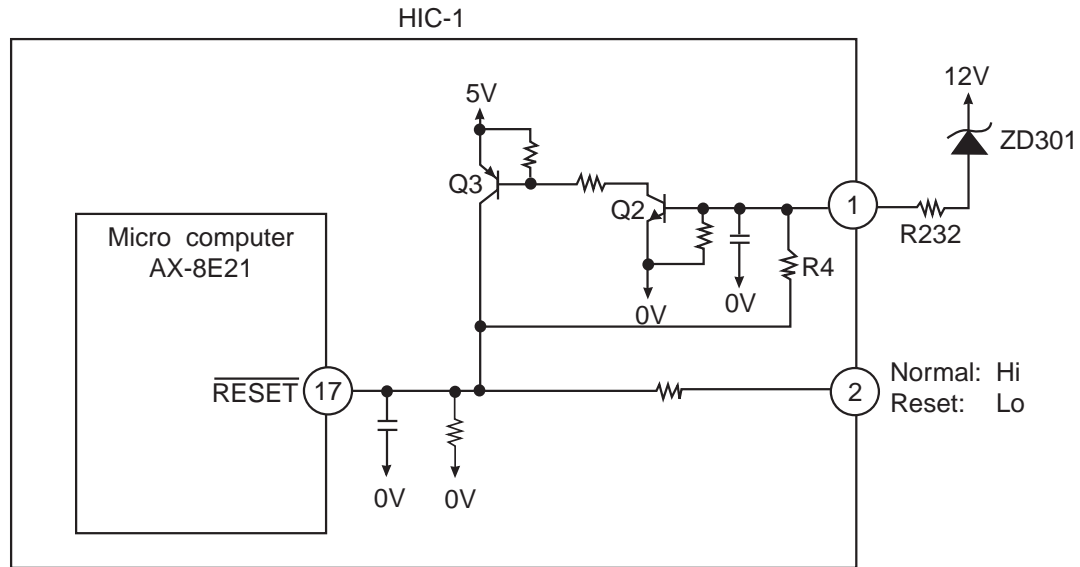
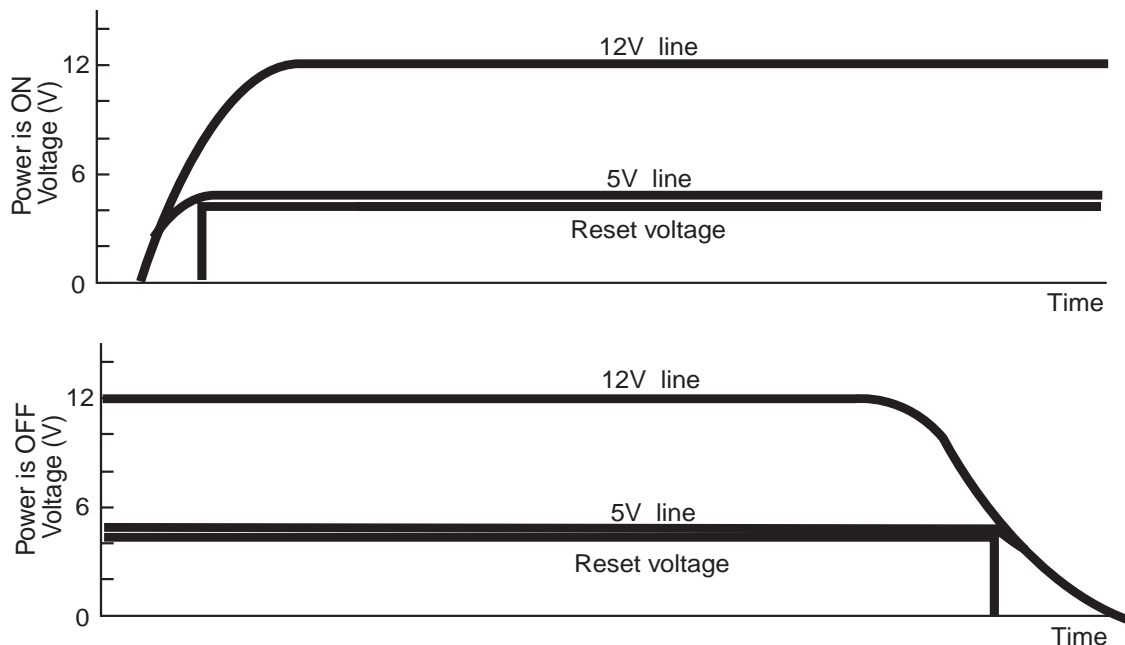

Fig. 11-1
Fig. 11-2
- Fig. 11-1 shows the reset circuit and Fig. 11-2 shows waveform at each point when power is turned on and off.
- When power is turned on, 12V line and 5V line voltages rise and 12V line voltage reaches 7.2V (Zener voltage of ZD501), ZD301 is turned ON, Q2 and Q3 are turned ON and reset voltage input to pin ⑰ of microcomputer is set to Hi. By ZD501, reset voltage maintains input of pin ⑰ at Lo until V_{DD} of microcomputer rises to 5V to obtain operable status.